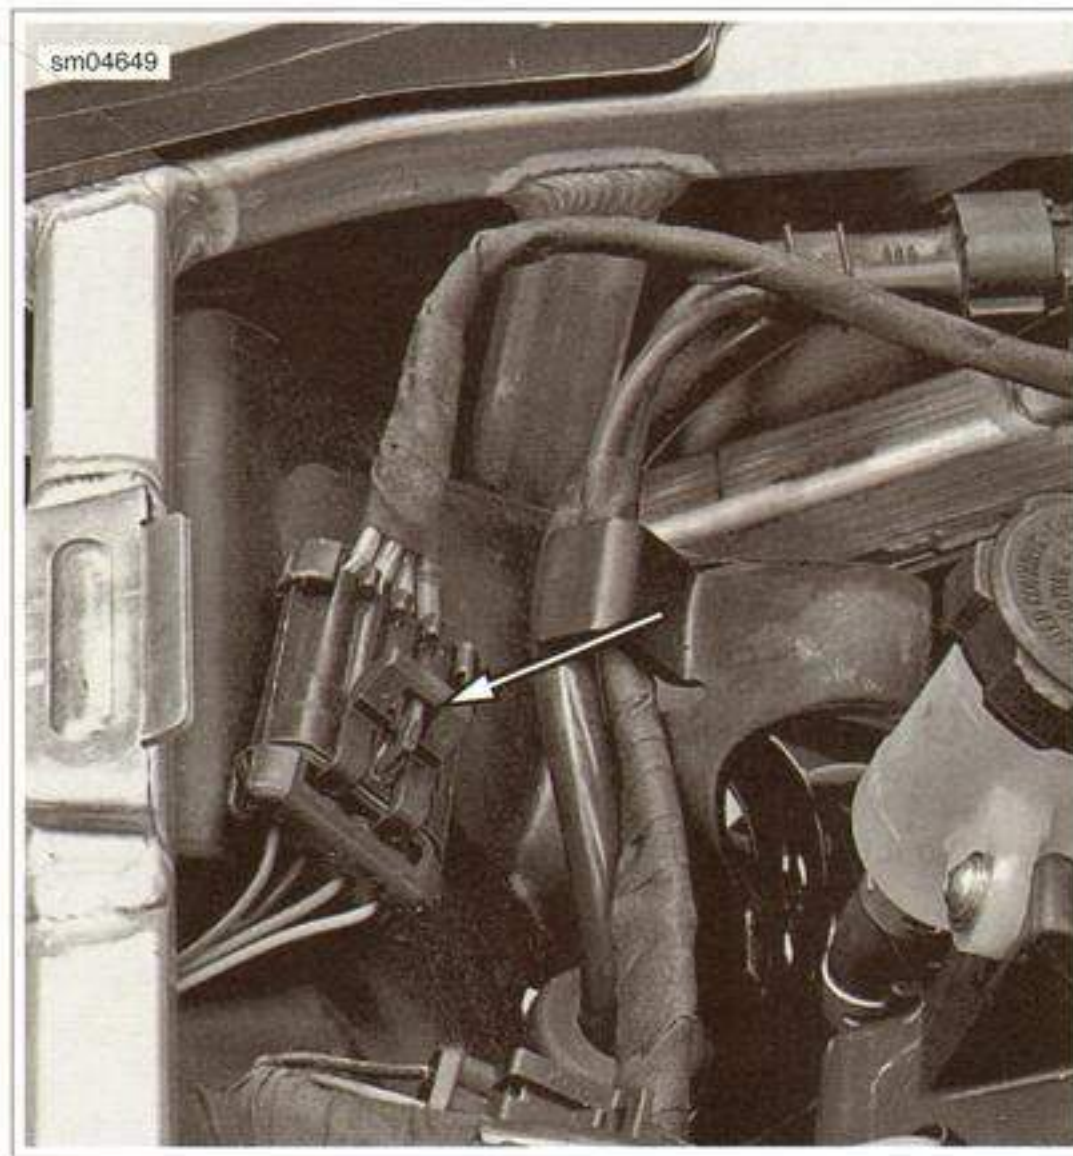

Figure 4-62. Fuel Pump Connector [86]
- a. See Figure 4-62. Disconnect the 4-place fuel pump connector [86].
6. Attach FUEL PRESSURE GAUGE (Part No. HD-41182) (4) to fuel pressure gauge adapter (1).
7. See Figure 4-62. Attach fuel pump connector [86] to main wiring harness.